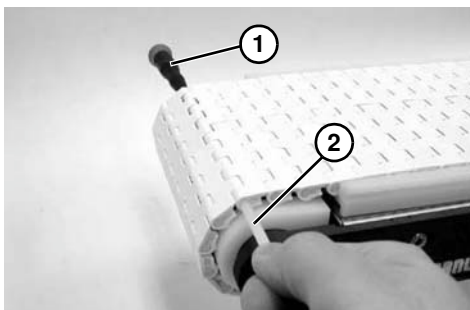

Figure 38
2. Insert screwdriver (**Figure 38, item 1**) into one side of belt, pushing rod (**Figure 38, item 2**) out. Remove rod and separate belt.